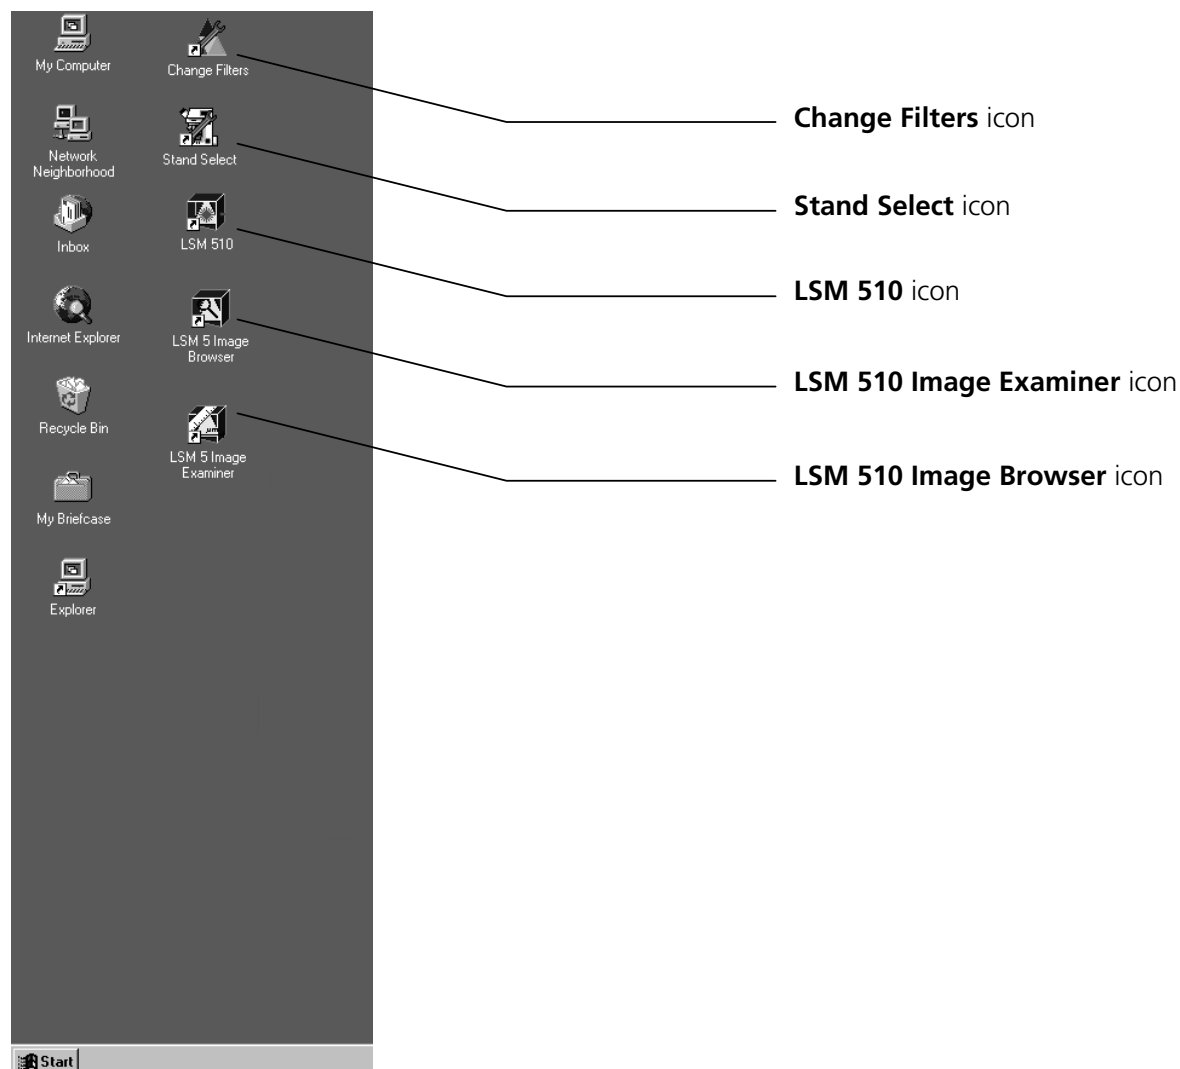

Fig. 4-5 WINDOWS NT operating system desktop
- Double-click on the **LSM 510** icon on the desktop of WINDOWS to start the LSM 5 software program (see Fig. 4-5).